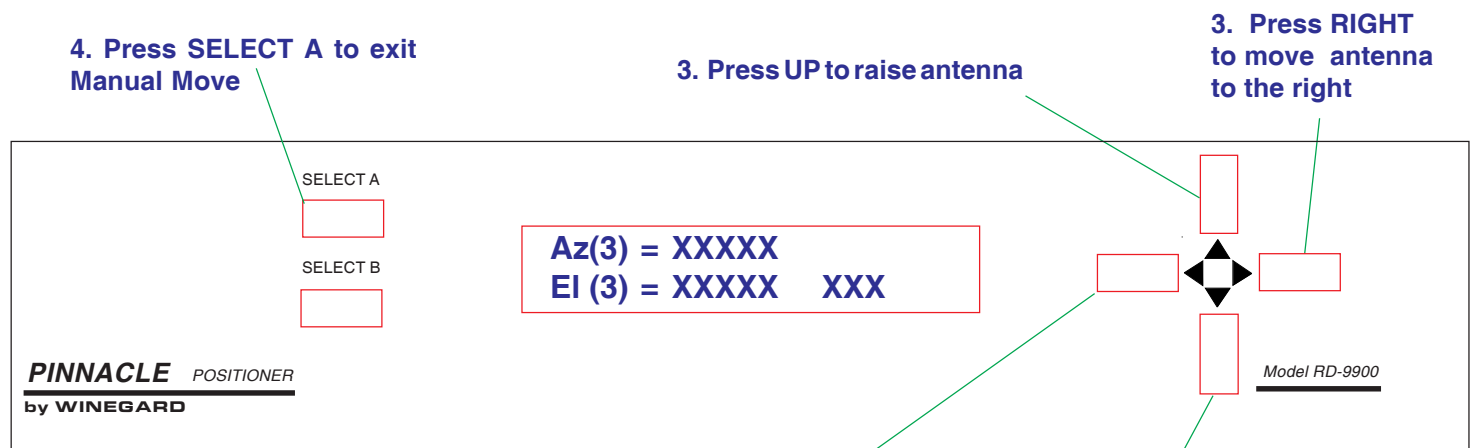
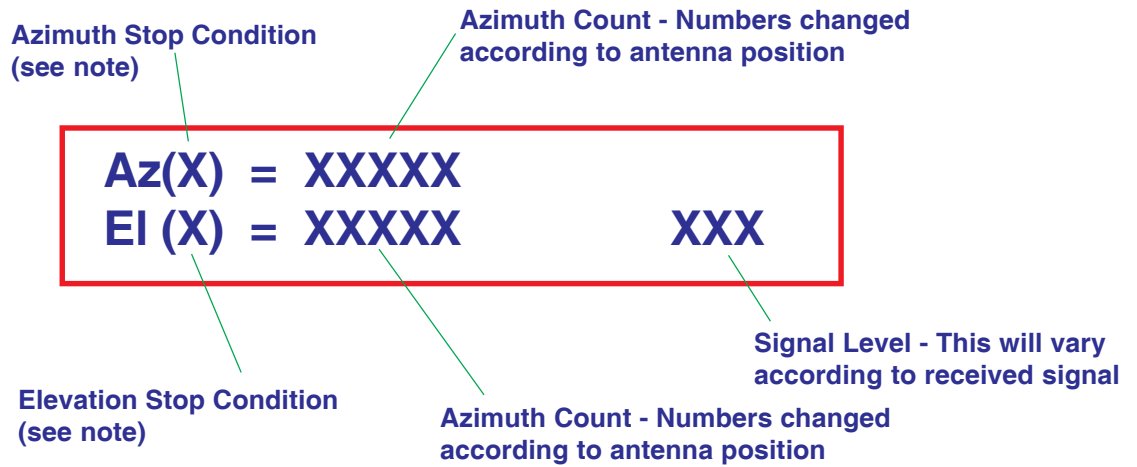

Figure 27
Figure 28
3. Press [ARROW BUTTONS] to move antenna in desired direction/position, see Figure 27. Figure 28 shows what the various numbers indicate on the positioner display.